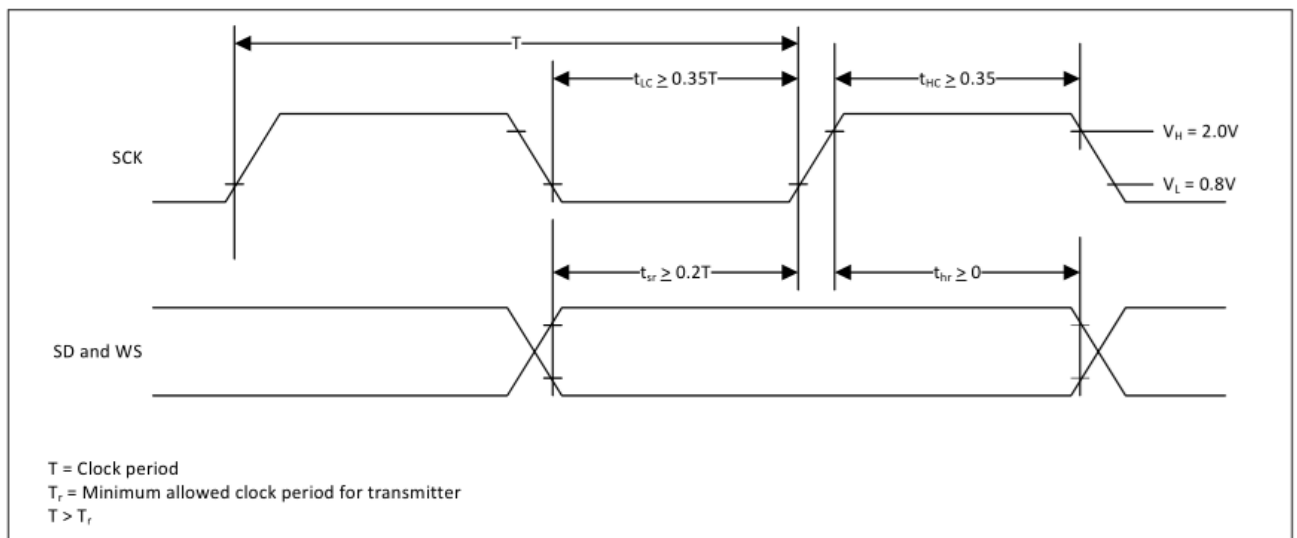

Figure 14: I2S receiver timing
Figure 14 shows the transmitter timing for the Continuous Serial Clock (SCK), Word Select (WS) and Serial Data (SD) signaling for the receiver.